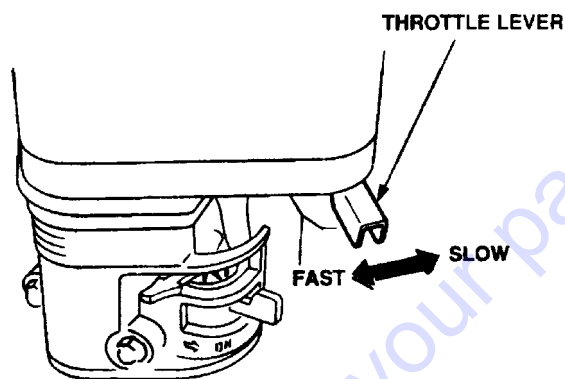

Figure 21. Throttle Lever
- Rotate the **throttle lever** (Figure 21) halfway between **fast** and **slow** for starting. All sawing is done at **full throttle**. The engine governor speed is factory set to ensure optimum blade operating speeds.
- Rotate the throttle lever (Figure 21) toward full throttle.